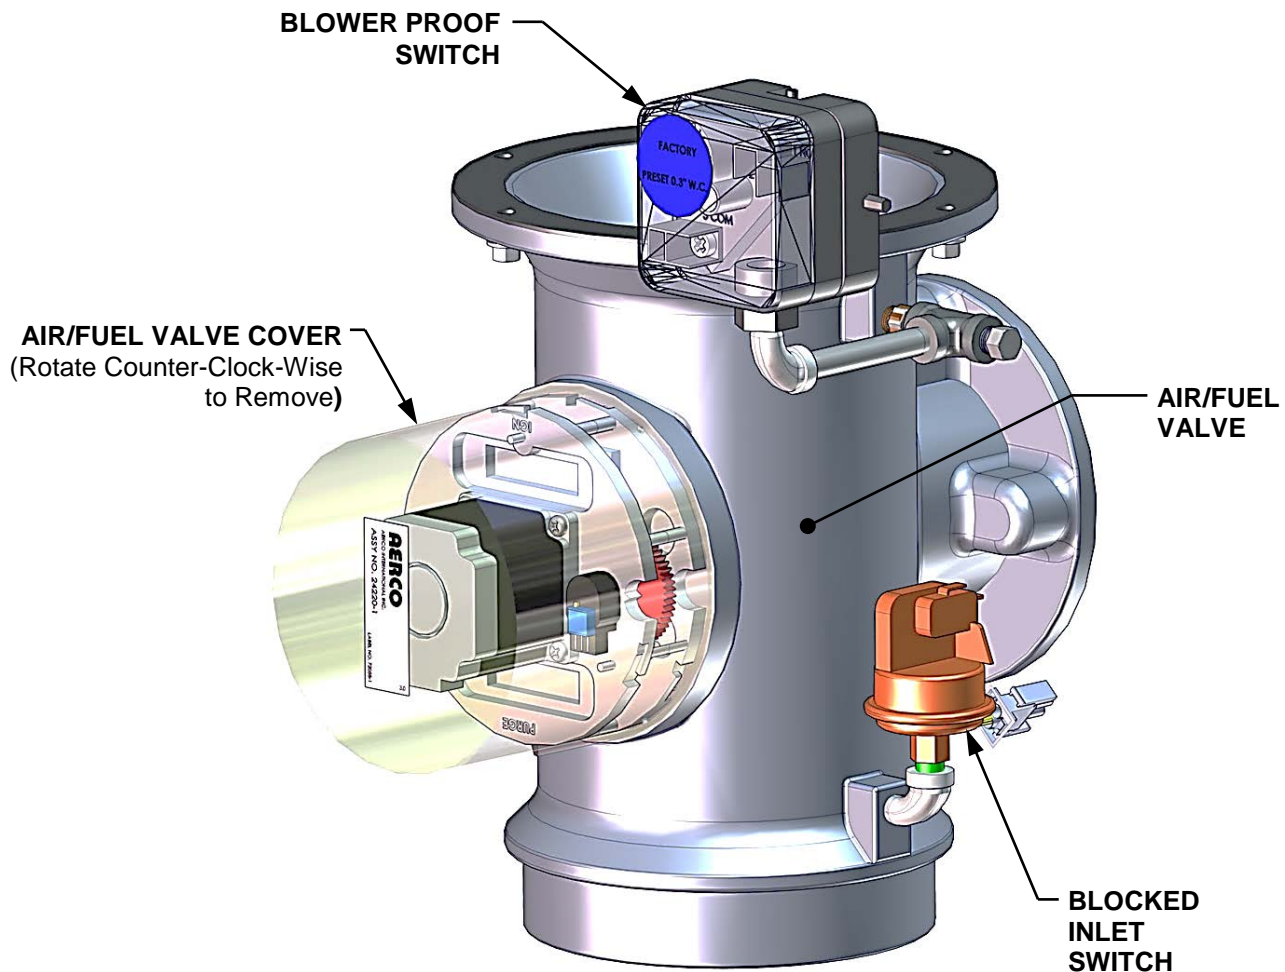

Figure 6-6: Air/Fuel Valve Cover Location
2. Remove the Air/Fuel Valve cover by rotating the cover counterclockwise to unlock it (see Figure 6-6).
3. Remove one of the two wires (#171 or #172) from the Purge Switch (Figure 6-6).
3. Remove the Air/Fuel Valve cover (Figure 6-6) by rotating the cover counterclockwise to unlock and lift up to remove.